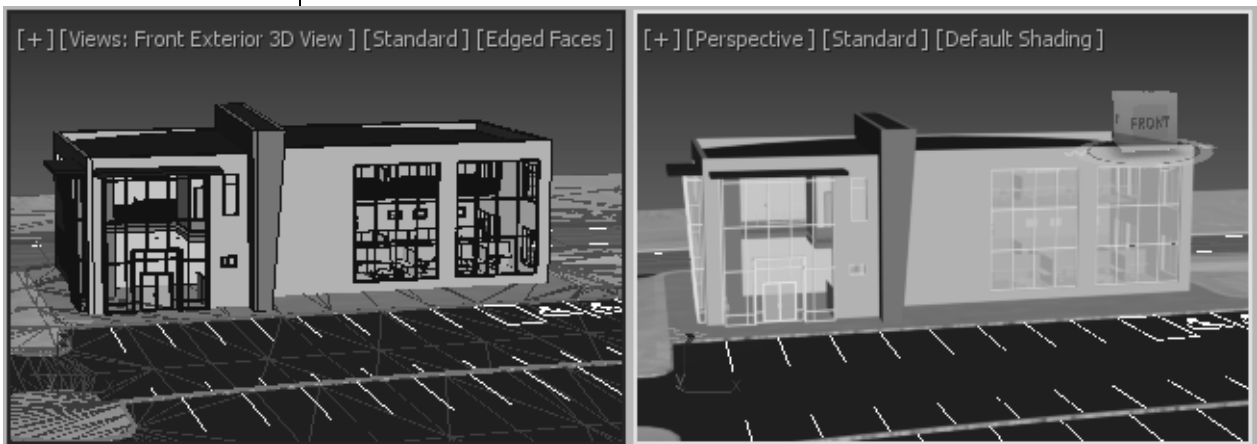

Figure 3-44
22. Use  (Orbit Camera) and  (Field-of-View) to display the complete building in the **Left** viewport, similar to that shown in Figure 3-44.
23. In the **Perspective** viewport, use  (Zoom),  (Orbit) and **Pan** to zoom into the building and parking lot area so that the display is similar to that shown in Figure 3-44.